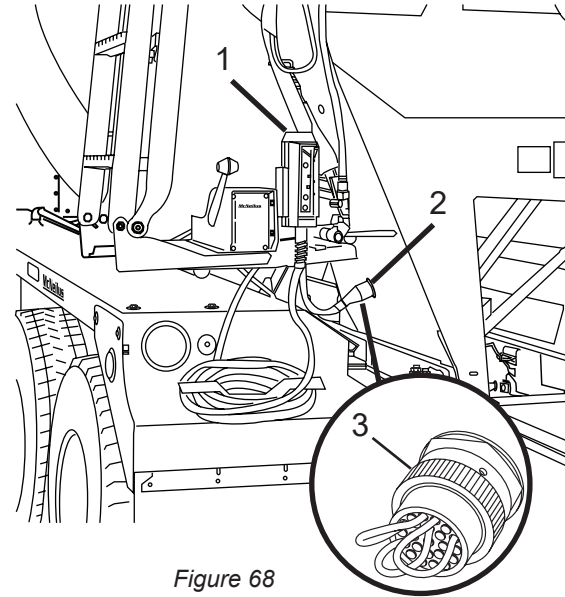

Figure 68
If the optional rear pendant (Figure 68, Item 1) is lost, or becomes damaged or faulty, a jumper plug (Figure 68, Item 3) must be installed in the rear pendant socket to allow operation of control functions from the cab control box.
2. Disconnect the rear pendant harness connector (Figure 68, Item 2) from the rear pedestal.
3. Install a jumper plug (Figure 68, Item 3) into the rear pendant harness connector. Purchase the jumper plug from www.streetsmartparts.com or by calling McNeilus Parts at 888-686-7278.